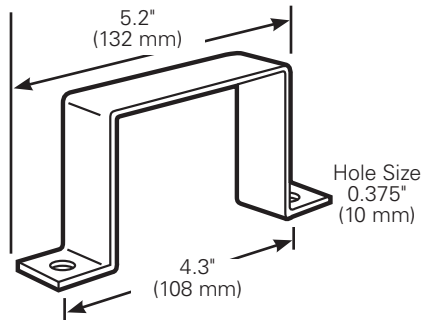

Figure 4. Stainless steel U-strap
- Place one supplied U-strap (Figure 4) between each post of the loadbreak junction and using the supplied 5/16" hardware attach U-straps to apparatus mounting plate, securing the loadbreak junction in place.